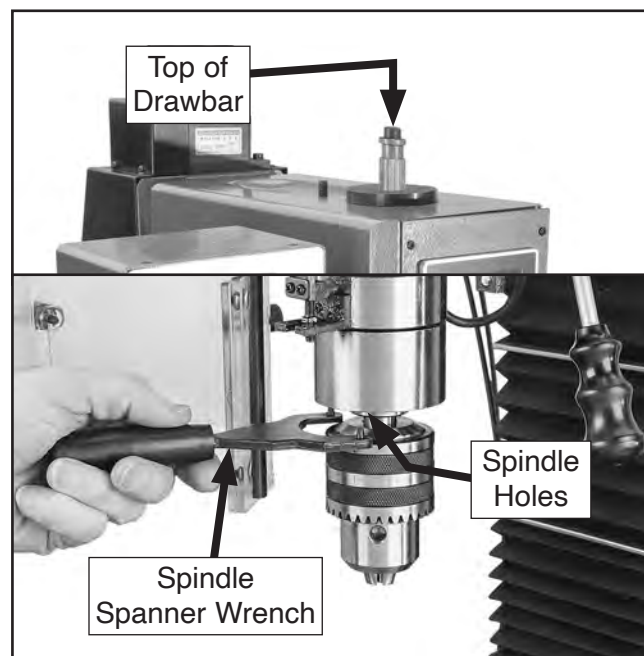

Figure 41. Example of loosening drawbar.
3. Use drawbar lock lever or 8mm hex wrench in top of drawbar and spindle spanner wrench in holes in bottom of spindle to loosen drawbar (see **Figure 41**).
5. Use drawbar lock lever or 8mm hex wrench in top of drawbar and spindle spanner wrench in holes in bottom of spindle to tighten drawbar (see **Figure 41** on **Page 35**).